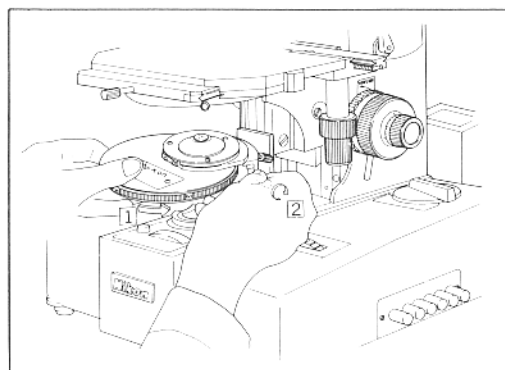

Fig. 29
2. Slide the phase-contrast turret condenser over the attaching dovetail. Mount it in position as shown in Fig. 29. Tighten the clamp screw.